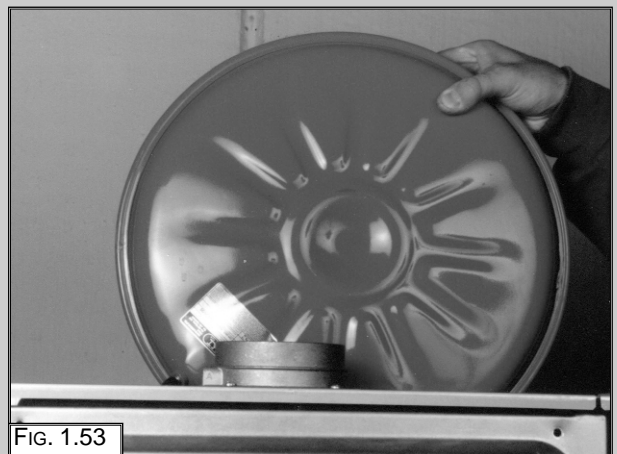

FIG. 1.53
3. Remove the expansion vessel (FIG. 1.53).